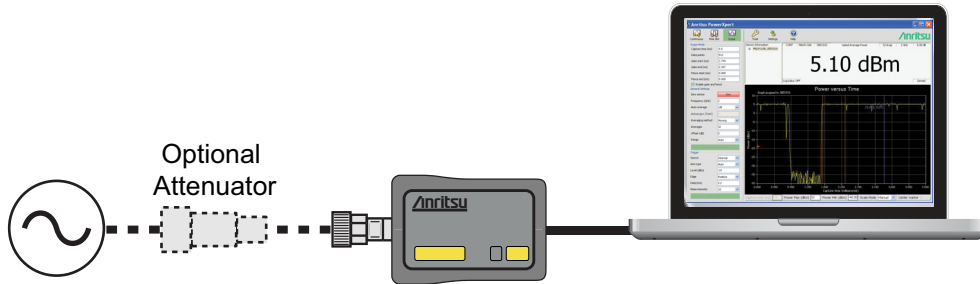

Figure 6-2. Measurement Setup
1. Connect the sensor to a computer as shown in Figure 6-2.